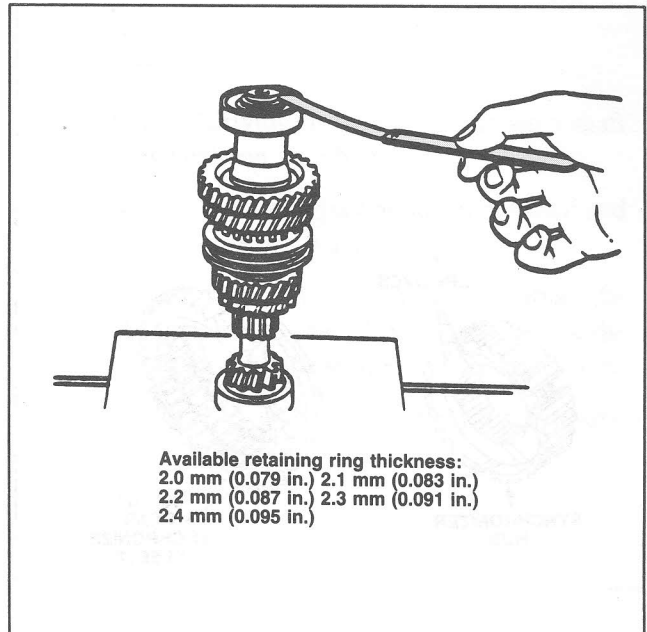

Figure 92 Snap Ring Clearance Measurement
8. Measure the clearance between the snap ring and the bearing inner race. (Figure 92).